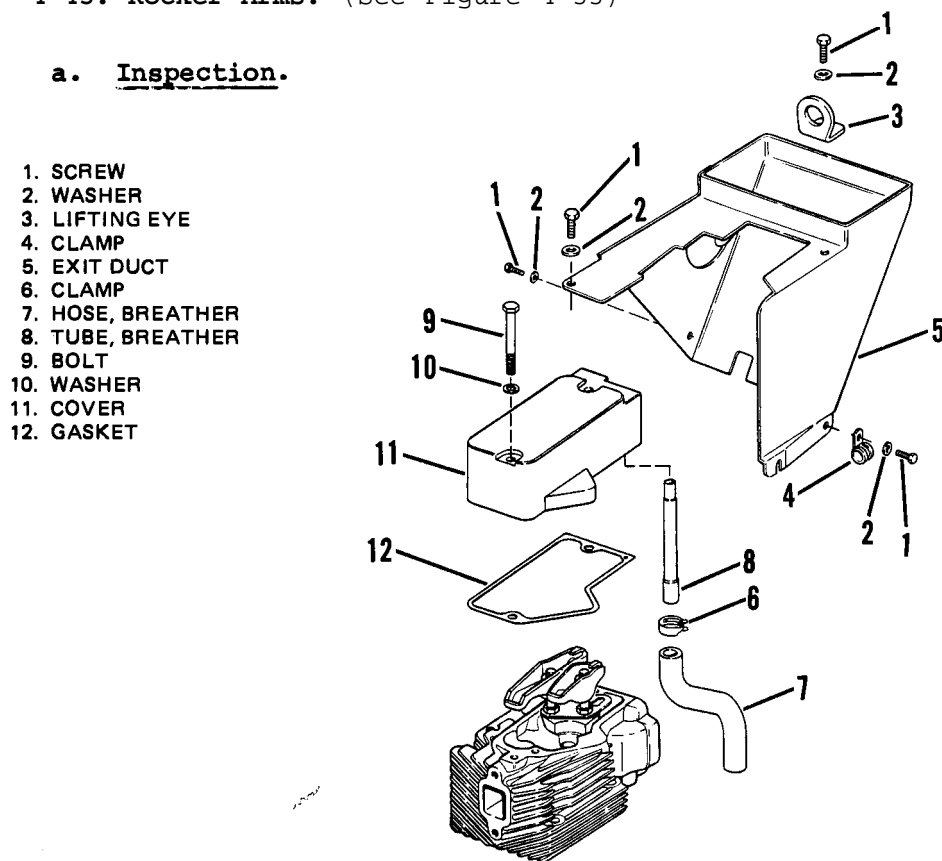

Figure 4-33. Rocker Arm Inspection.
4-43. Rocker Arms. (See Figure 4-33)
- (1) Remove oil filter (see paragraph 4-46).
- (2) Rotate engine support down.
- (3) Remove governor oil line (1, Figure 4-33).
- (4) Remove screw (2), washer (3), and clip (4).
- (5) Disconnect throttle cable (5), washer (6) and pin (7).
- (6) Remove governor linkage assembly (8) by removing locknuts (9) and (26).